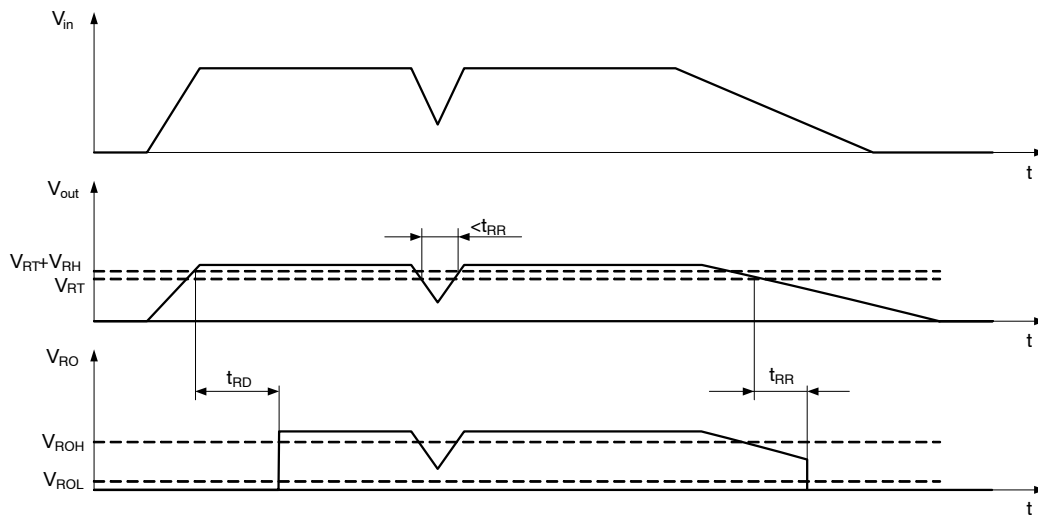

Figure 24. Reset Function and Timing Diagram
A reset signal is provided on the Reset Output (RO) pin to provide feedback to the microprocessor of an out of regulation condition. The timing diagram of reset function is shown in Figure 24. This is in the form of a logic signal on RO. Output voltage conditions below the RESET threshold cause RO to go low. The RO integrity is maintained down to  $V_{out} = 1.0$  V. The Reset Output (RO) circuitry includes internal pull-up connected to the output ( $V_{out}$ ) No external pull-up is necessary.